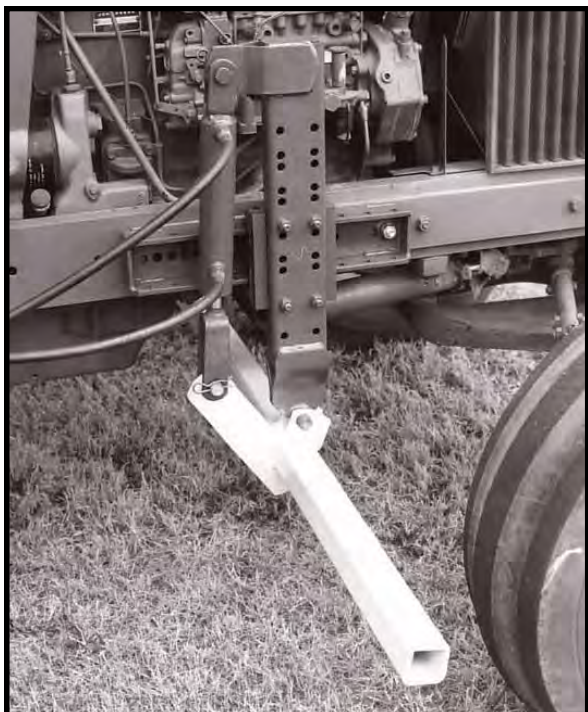

Figure 38
3. Next, mount the coultter tool bar and hydraulic cylinder as shown in Figures 38 and 39. Tighten all bolts securely.